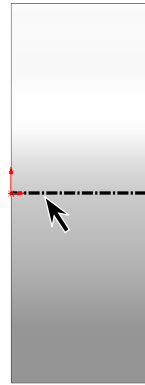

**Fig. 10**
Step 1. Click **Right Plane**  in the Feature Manager and click **Sketch**  on the context toolbar, **Fig. 10**.